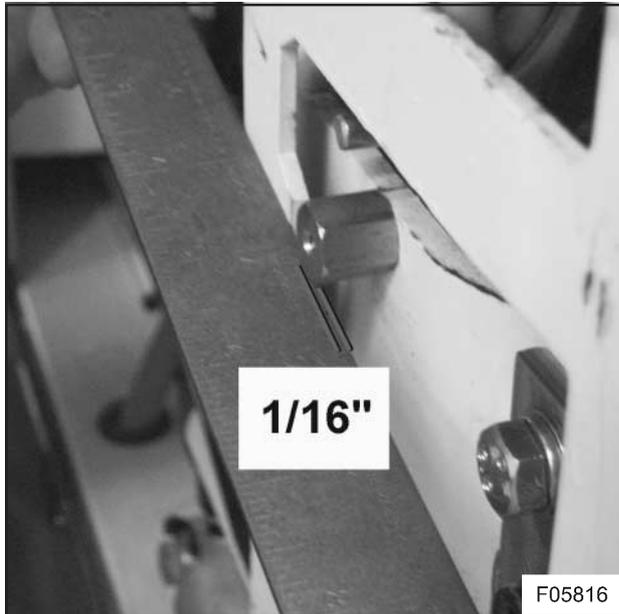

Figure 30: handle spacer adjustment
- 1) With a straight edge, measure the distance between the handle spacers VH 10715866 and the door frame as shown in Figure 30. Adjust this distance using shims, until the handle spacers protrude $\frac{1}{16}$ inch (1.6 mm) from the door frame surface.